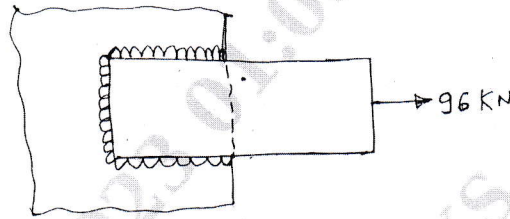

Fig.Q8(a)
- 8 a. A 80mm wide 12mm thick plate carrying an axial load of 96kN is welded to a support as shown in Fig.Q8(a). The allowable tensile and shear stress in the weld are 100MPa and 70MPa respectively. Find the length of each parallel fillet weld, for static : loading and dynamic loading cases.